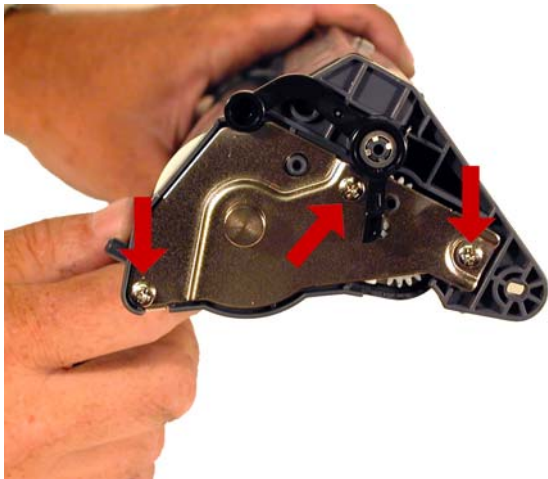

Figure 39
31) Remove the 3 screws from the metal drum axle. See **Figure 39**